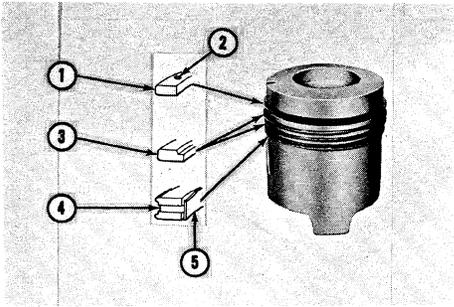

Figure 41
5. Install the piston rings with a ring expander. Begin the assembly from the oil ring groove work up, Figure 41.